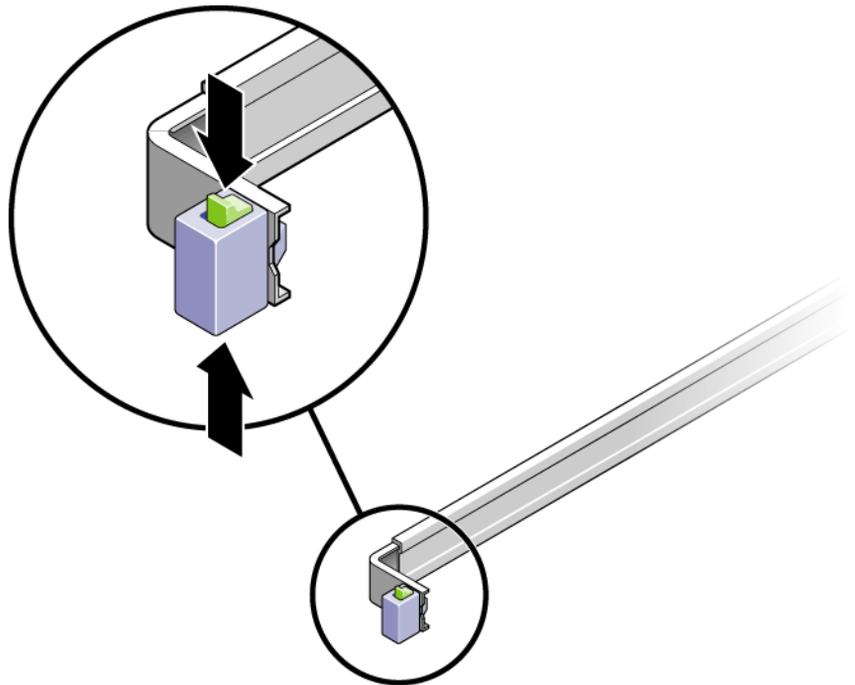

FIGURE 2-23 Unlocking the Slide Rail Assembly
2. Unlock the slide lock buttons (FIGURE 2-23) at the right and left sides of the appliance chassis, and slowly pull the appliance out of the rack until the slide rails reach their stops.